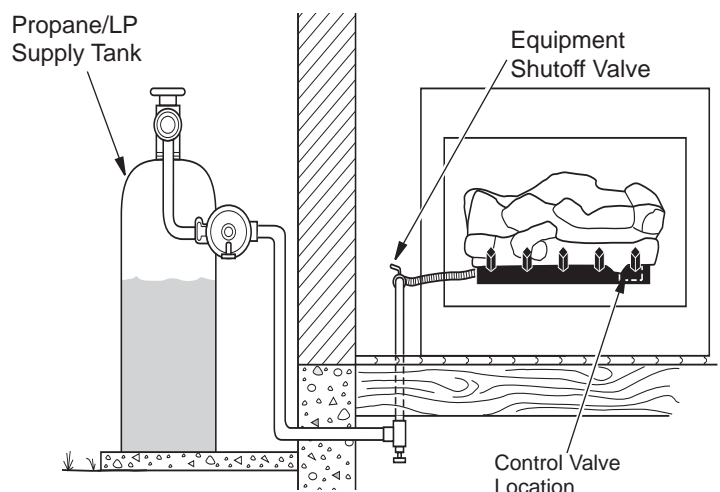
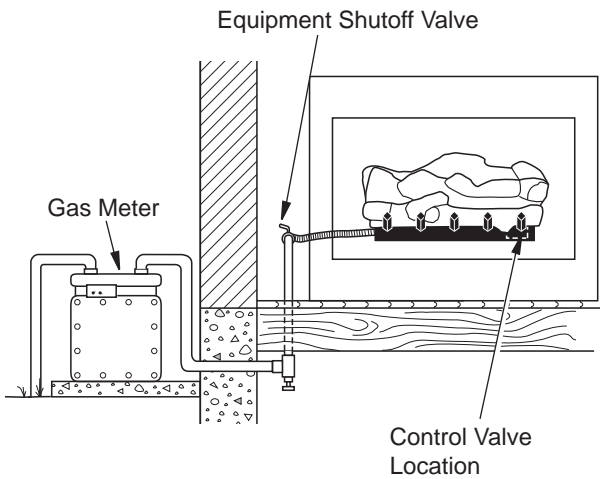

Figure 14- Checking Gas Joints (Propane/LP Only)
Figure 15 - Checking Gas Joints (Natural Gas Only)
3. Check all joints from gas meter to equipment shutoff valve for natural gas or propane/LP supply to equipment shutoff valve for propane/LP (see **Figure 14** or **Figure 15, Page 10**). Apply noncorrosive leak detection fluid to all joints. Bubbles forming show a leak.
4. Check all joints from gas meter to equipment shutoff valve for natural gas or propane/LP supply to equipment shutoff valve for propane/LP (see **Figure 14, Page 9** or **Figure 15, Page 10**). Apply noncorrosive leak detection fluid to all joints. Bubbles forming show a leak.